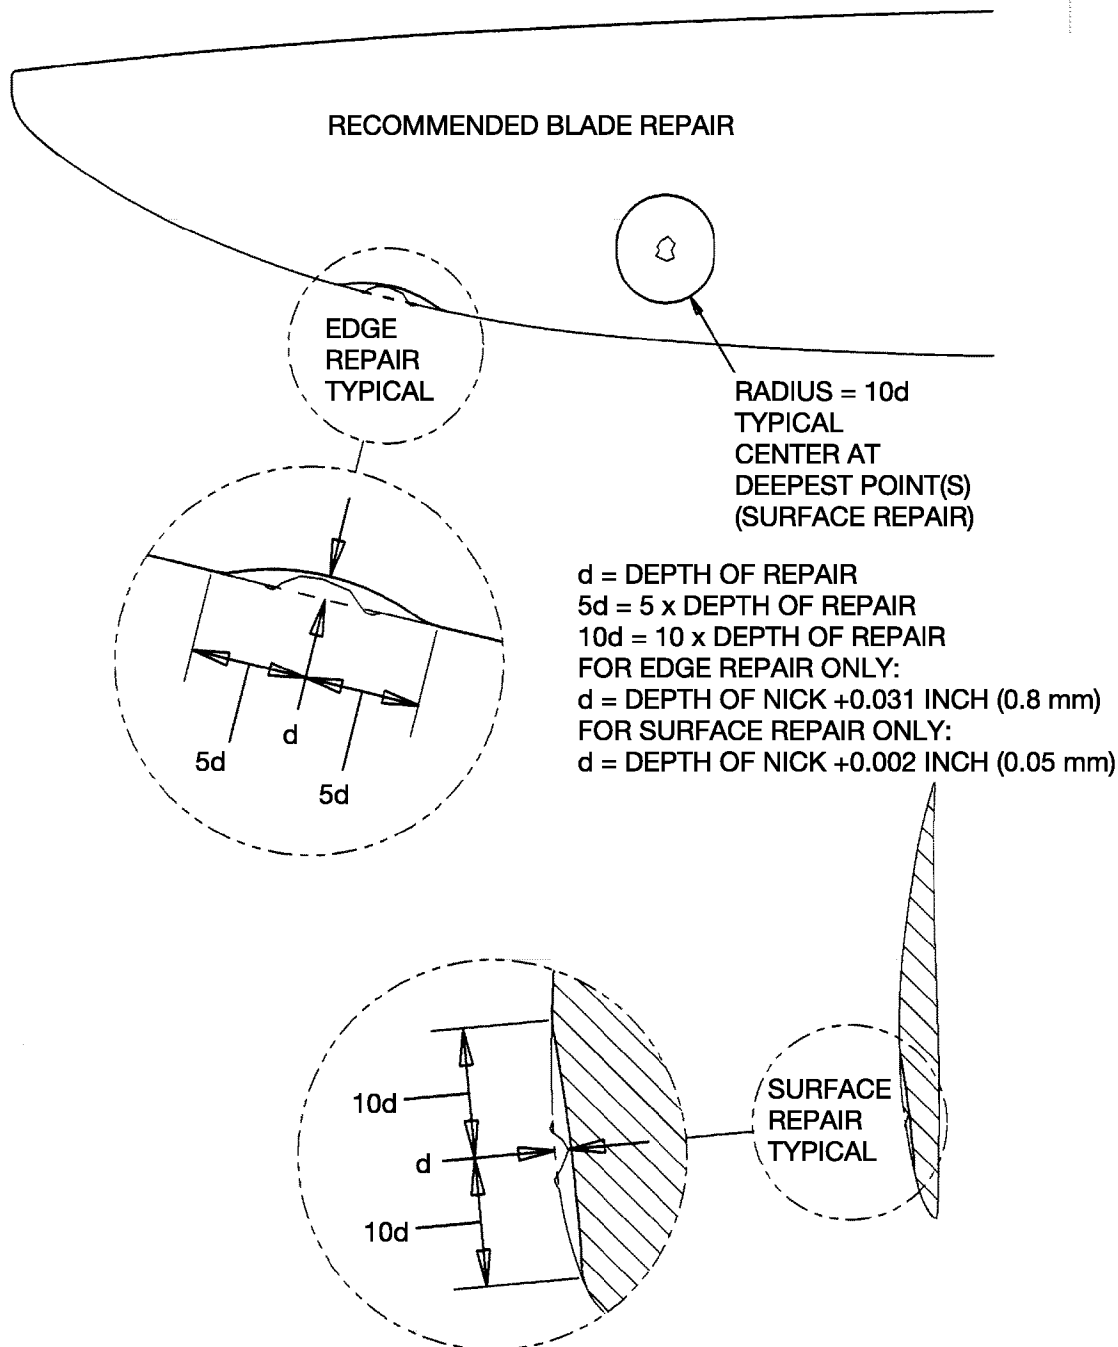

Figure 1. Blade Surface Repair (Sheet 1)
(1) Stress Riser Damage Repair
- (a) Repair stress riser damage by filing the damaged area as illustrated in Figure 1.
(2) Leading Edge Repair
- (b) (Refer to Figure 1.) Blend the area to a length of 10 times the depth of the nick.
(3) Face and Camber Repair
- (b) (Refer to Figure 1.) Grind the blade with light pressure in a circular motion until the damage is totally removed.
- 1 The repaired area must have a diameter equal to 20 times the depth of the damage as illustrated in Figure 1.